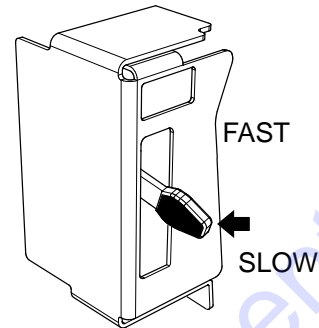

Figure 15. Throttle Lever (Midway Position)
4. Move the throttle lever halfway between the **FAST** and **SLOW** position (Figure 15) for starting.
- Place the engine's throttle lever (Figure 15) in the **slow** (idle) position.
3. Place the engine's throttle control (Figure 15) in the **SLOW** (idle) position.